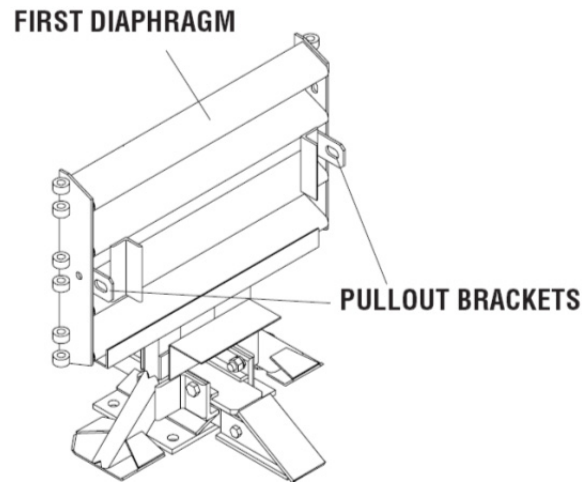

Figure 71
- 6) Attach chain to **Pullout Brackets** on first Diaphragm (See Figure 71). Attach both ends of chain to a heavy vehicle (such as a 1 ton pickup.)